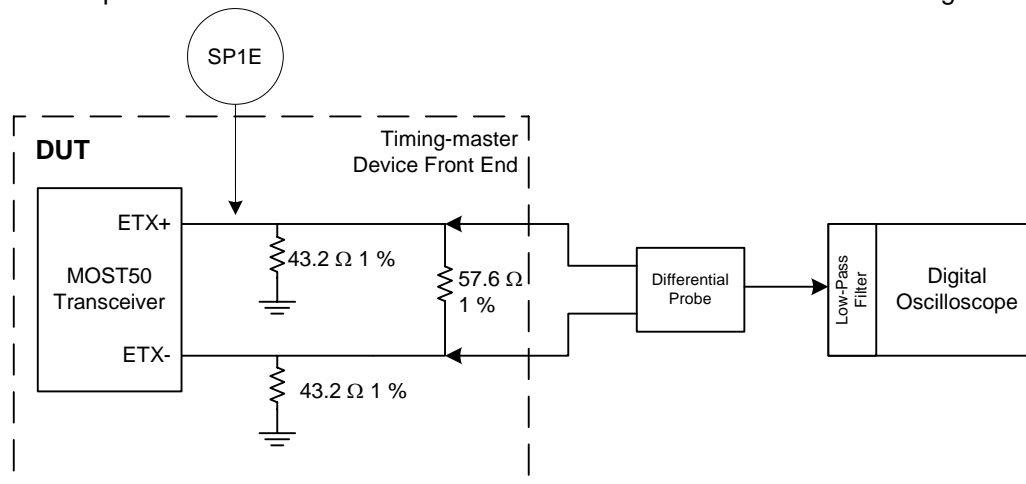
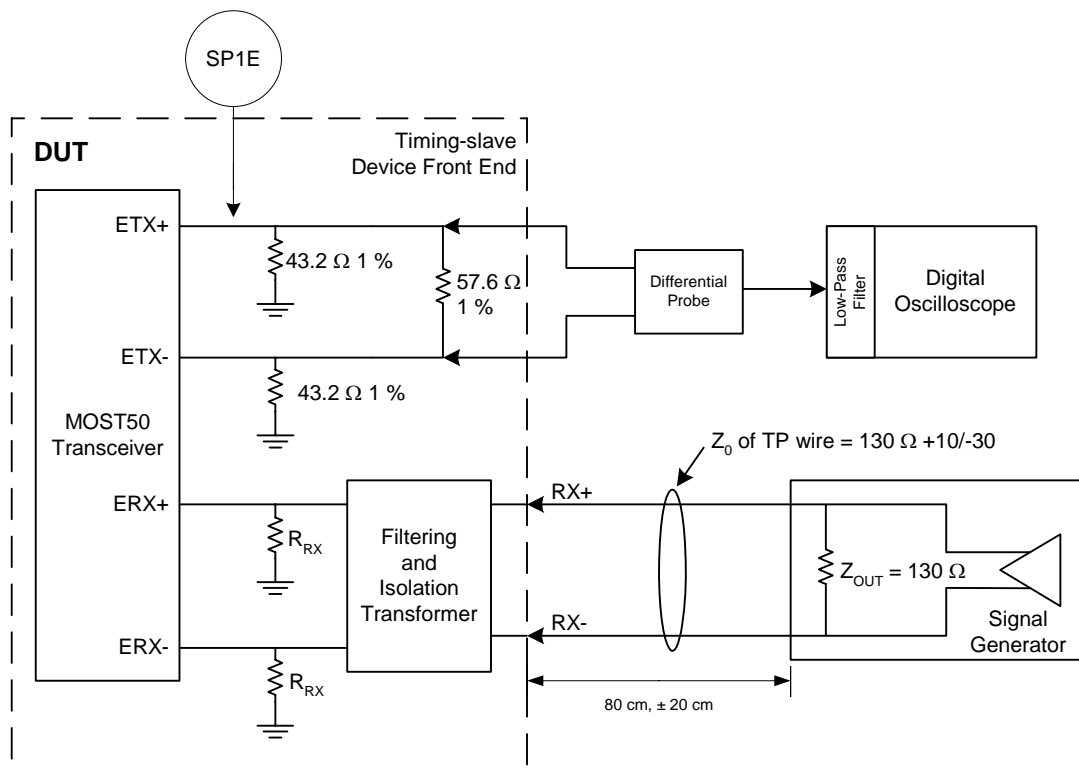

Figure A-1: NIC Transmission Quality Test Setup (Timing-master mode)
Figure A-2: NIC Transmission Quality Test Setup (Timing-slave mode)
Diagrams showing the test setup used to capture an eye diagram for NIC Transmission Quality are shown in Figure A-1 and Figure A-2. This specification point should be tested with the device under test in both of the following configurations:
Use the setup shown in Figure A-1 when testing a DUT in Timing-master mode. The ETX+ and ETX- outputs of the device are terminated into a resistive load as shown in the figure.
- Use the setup shown in Figure A-2 when testing a DUT in Timing-slave mode. The DUT is placed in node position 1 and locked to a reference signal from the Signal Generator. The ETX+ and ETX- outputs of the device are terminated into a resistive load as shown in the figure.
- Configure the system as shown in either Figure A-1 or Figure A-2, depending upon the type of DUT submitted for testing.